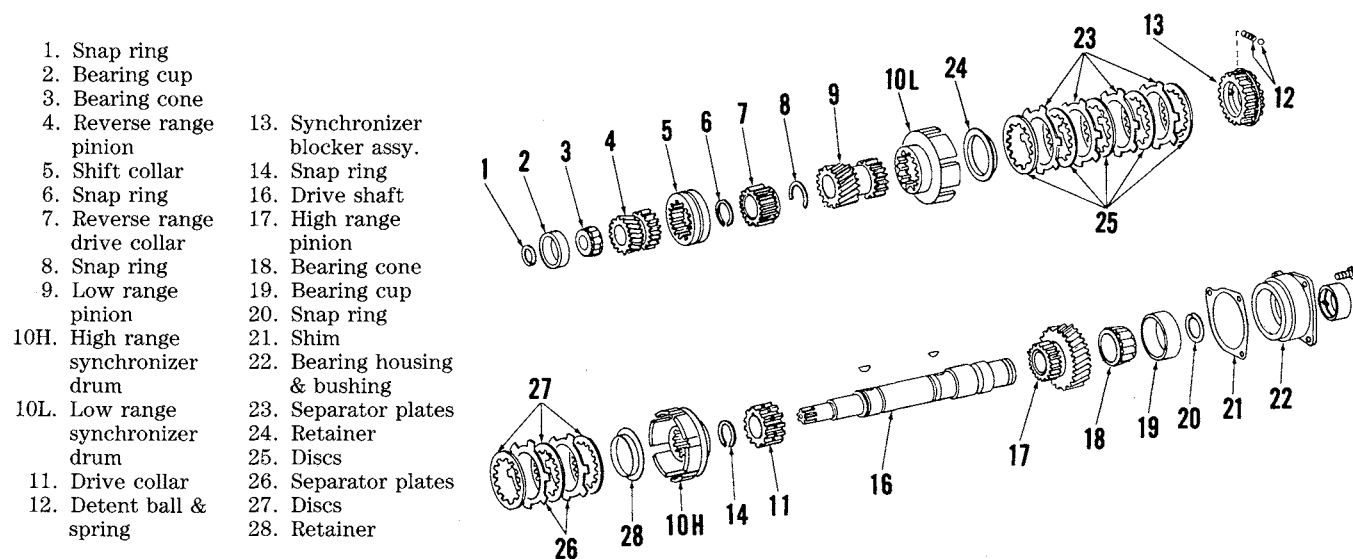

Fig. 132—Exploded view of transmission drive shaft and associated parts used on Models 4050, 4250 and 4450. Refer to Fig. 132A for Model 4650.
To install transmission drive shaft, position shaft in housing and install front bearing cup, shims and retainer. Install rear bearing cup part way into housing, then install transmission oil pump. The rear bearing cup will be properly located as the oil pump mounting cap screws are tightened to 20 ft.-lbs. (27 N·m). Check transmission shaft end play using a dial indicator. Adjust shim pack (21—Fig. 132 or 132A) thickness to obtain recommended end play of 0.004-0.006 inch (0.10-0.15 mm). Tighten bearing retainer cap screws to 35 ft.-lbs. (47 N·m).
115. TRANSMISSION DRIVE SHAFT. To disassemble the removed transmission drive shaft, remove snap ring (20—Fig. 132 or 132A). Remove bearing cone (18) and high range pinion (17) from shaft using a suitable press. Support the shaft during pressing operation as it will be free to fall when gear is removed.
Inspect blocker assembly and drums for wear or damage. Renew synchronizer plates (23 and 26—Fig. 132 or 132A) if they are warped, discolored or worn. Thickness of plates when new is 0.061-0.064 inch (1.55-1.61 mm) on Model 4650 and 0.048 inch (1.22 mm) on all other models. Thickness of a new synchronizer disc (25 and 27) is 0.089-0.093 inch (2.27-2.37 mm) on Model 4650 and 0.068-0.072 inch (1.73-1.83 mm) on all other models. Renew discs if facing grooves are not distinctive, or if facing chips, flakes or scratches easily.
when installing blocker assembly onto shaft. When low and high drums are in place, tape the drums together to prevent separation during reassembly. After bearing cones are pressed onto ends of shaft, install the thickest snap rings (1 and 20—Fig. 132 or 132A) that will fit into the shaft grooves.